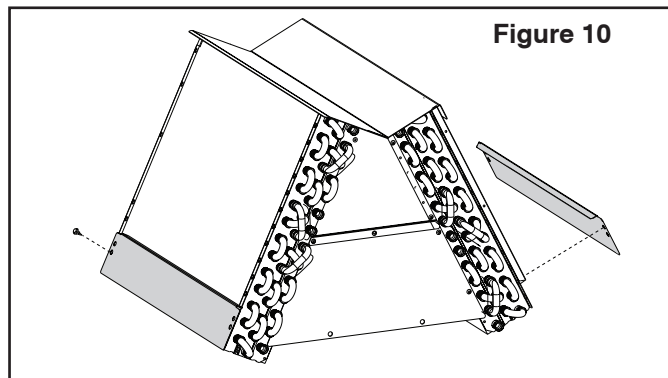

Figure 10
- c. On model 5TXCC009 only, remove the two outer water management baffles by removing the 5/16" hex screws and discard. See figure 10.
- b. On model 5TXCD010AS, installing the water diverter baffles is required for water management in downflow installations. Install the two outer water baffles provided in the documentation package to the drainpan using the provided 5/16" hex screws. These should be located as close as possible to the drainpan. See figure 10.
- On model 5TXCC009 only, remove the two outer water management baffles by removing the 5/16" hex screws and discard. See figure 10.
While not required, optional removal of some coil components will maximize airflow efficiency. On 5TXCA009AS only, remove the (2) outer water diverter baffles by removing the 5/16" hex head screws. See Figure 10.